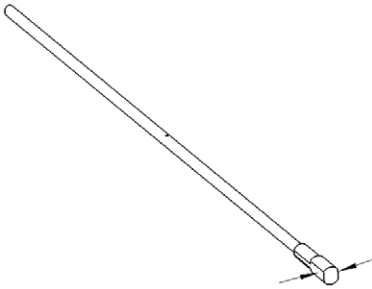

Fig. 4 Lubrication points on the pushing rod
- ▶ Before assembly, apply a small amount of sterilizable, steam permeable oil (such as Aesculap-STERILIT® I oil spray JG600 or STERILIT® I drip lubricator JG598) only to the areas indicated, see Fig. 4.